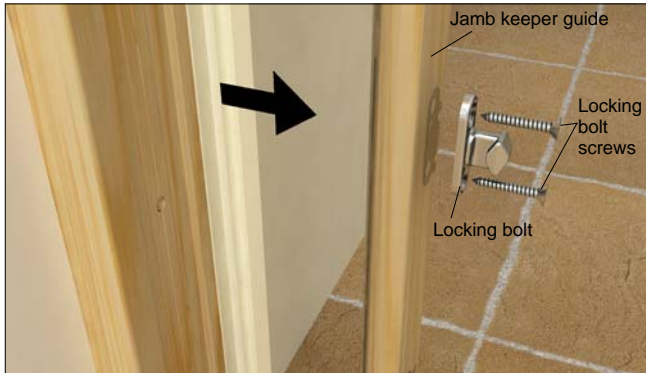

Figure 14
7. For bi-parting doors proceed to step 3. Remove locking bolts and jamb keeper guide. See figure 14.